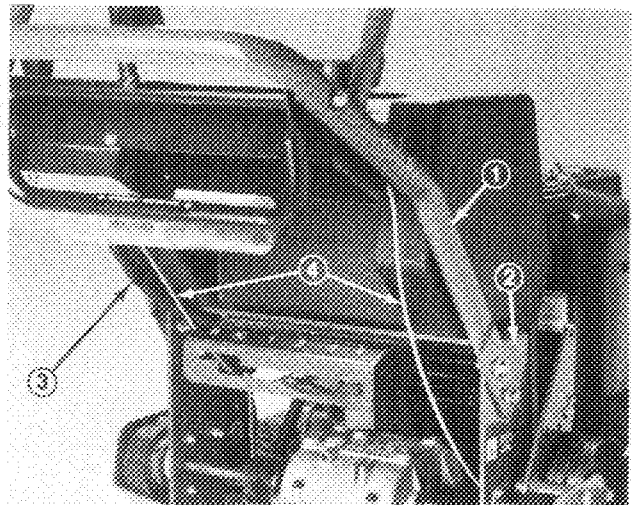

Figure 4
1. Align upper handle mounting holes with desired mounting holes in frame (upper or lower set of holes) and secure each side with (2) 3/8 -16 x 1" lg. flange capscrews and flange nuts (Fig. 4). Route cables and wire harness inside of frame (Fig. 4).